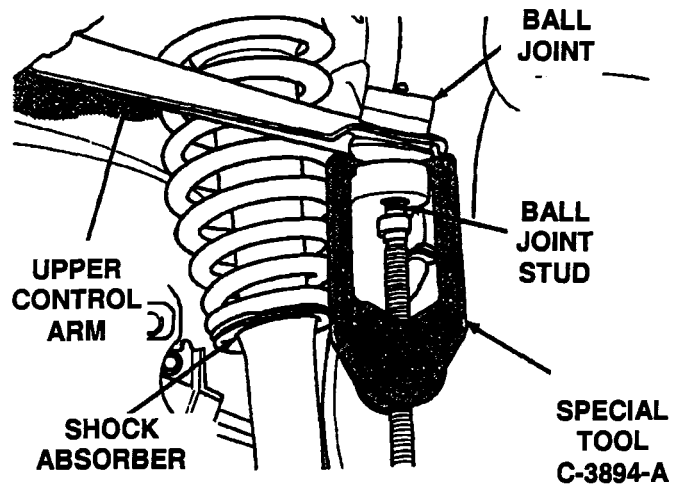

Figure 7
16. Remove the upper ball joint stud from the steering knuckle using Special Tool C-3894-A (Figure 7).
27. Install the upper ball joint into the steering knuckle (Figure 7).